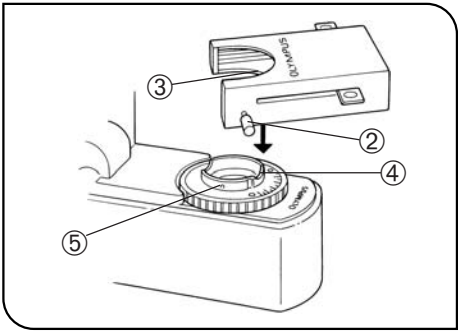
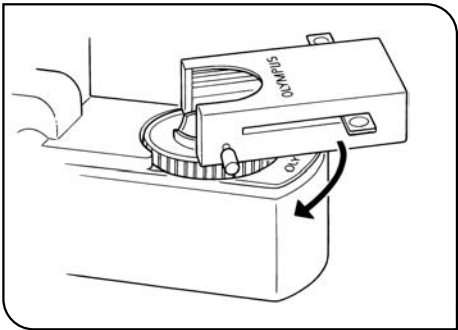

Fig. 8
Fig. 9
- 1. Fully loosen the filter cassette clamping screw ②. (Fig. 8)
- 2. Align the key ③ on the bottom surface of the filter cassette with the positioning slot ④ on the filter mount, then snap the filter cassette into place from above.
- 3. Rotate the filter cassette to align its sides with the base. (Fig. 9)
- 4. Align the clamping screw ② with the positioning hole ⑤ on the filter mount, then tighten the screw to fasten the filter cassette.